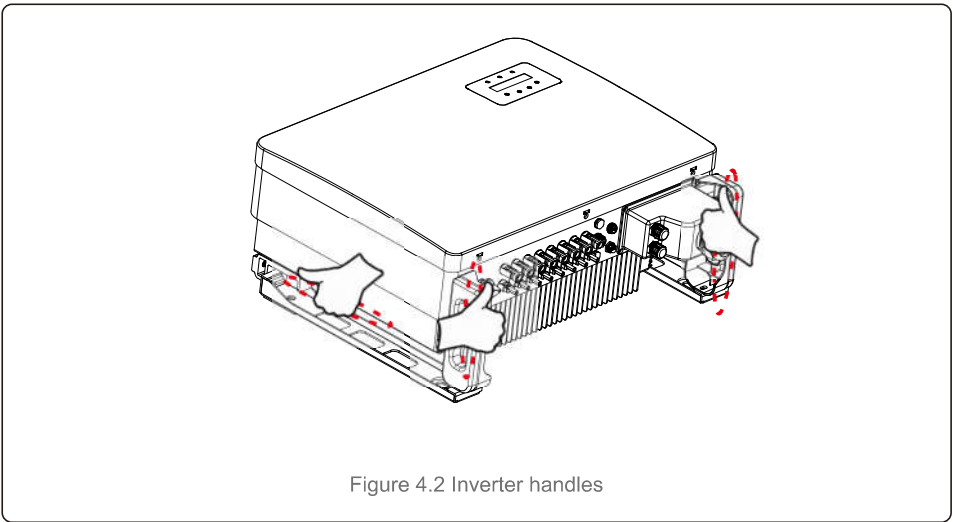

Figure 4.2 Inverter handles
- 2.Open the carton, then two people handle both sides of inverter through the area denoted dotted line. (see figure 4.2).